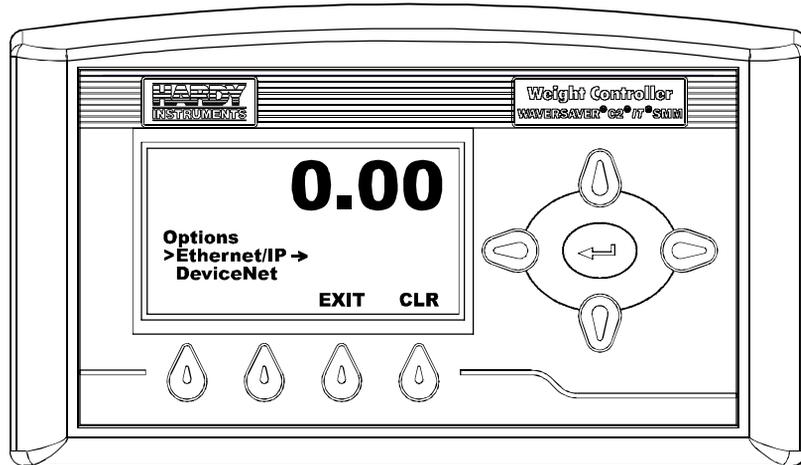

FIG. 126 OPTIONS MENU/SELECTING ETHERNET/IP
- Step 3. Press the Down arrow until the cursor is in front of Ethernet/IP (See Fig. 126)